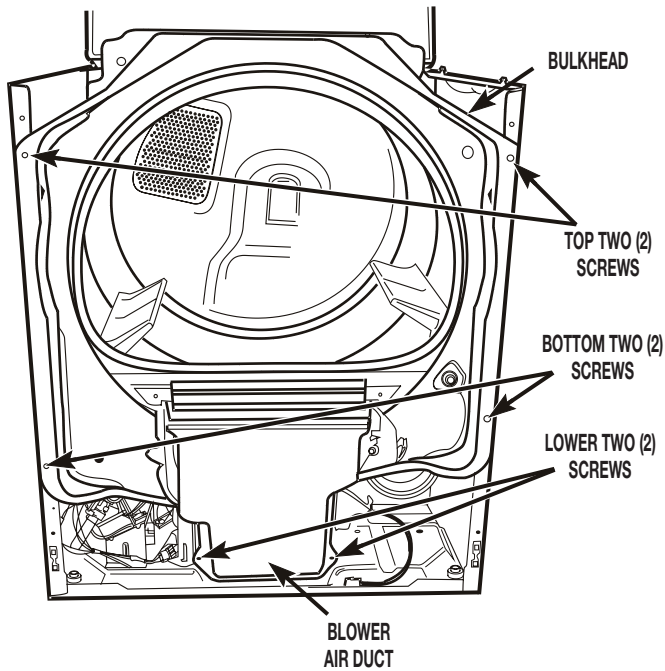

FIGURE 5
- Loosen the top two (2) hex-head screws and remove the bottom two (2) hex-head screws from the front bulkhead. Remove the lower two (2) screws from the blower air duct. Gently remove the bulkhead and blower air duct from the front of the dryer. See *Figure 5*.